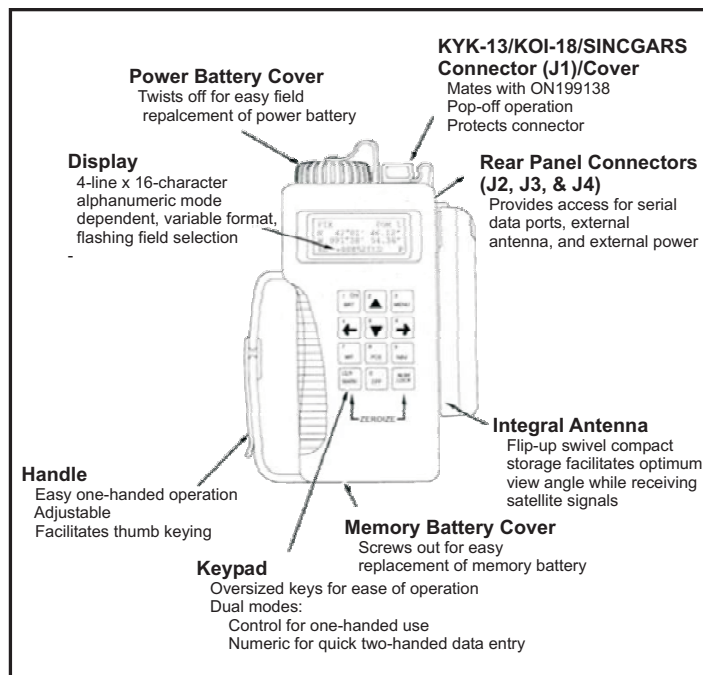

Figure 5-1. AN/PSN-11 PLGR
1. Characteristics. The AN/PSN-11 is less than 9.5 inches long, 4.1 inches wide, and 2.6 inches deep. It weighs 2.75 pounds with all batteries in place. The small size and light weight make the set easy to carry and use. The durable plastic case is sealed for all-weather use. The AN/PSN-11 features also make it easy to use. These features are highlighted in Figure 5-1.